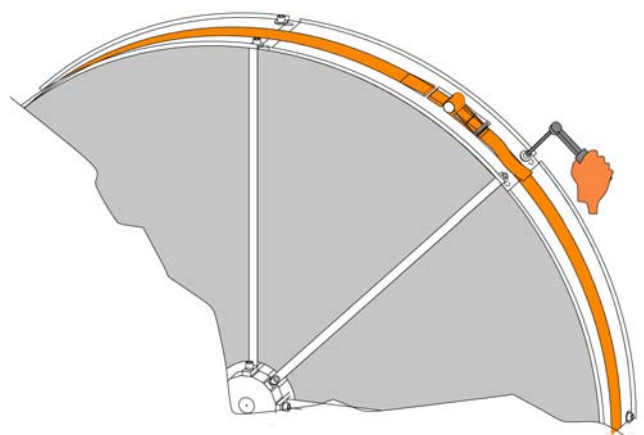

Figure 17
- After the rotor has been firmly clamped, tighten the M10 socket screws firmly (Figure 17)
- Shorten the belt according to Figure 17 and attach V-belt lock. File down or cut off protruding screw thread.